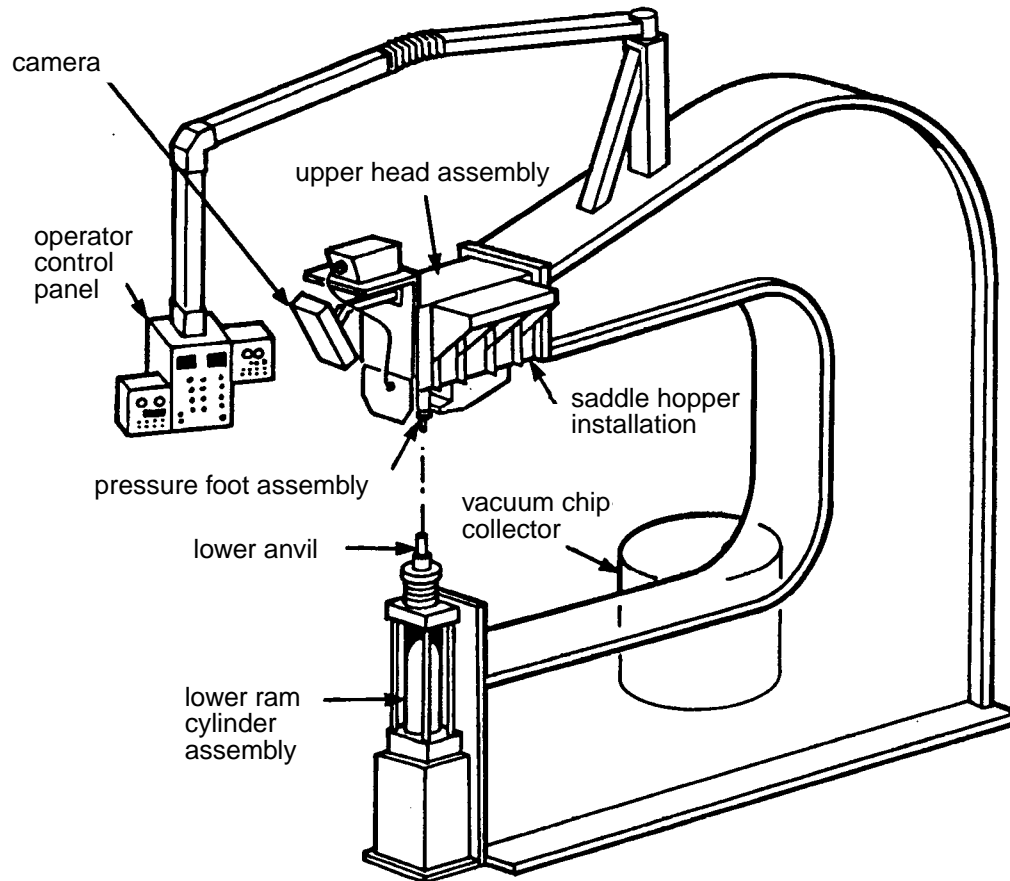

Figure 2 - Model CE3941 Gemcor Drivmatic Drill/Riveter
- 4.2.1 Automatic drill riveters (e.g., Model G200BCHX-72-CE3941, G200BCHX-72-CE3994 and G200BCHX-36-CE4922 Gemcor Drivmatic Riveters). Refer to Figure 1 and Figure 2 for the general description of Gemcor Drivmatic drill riveters.